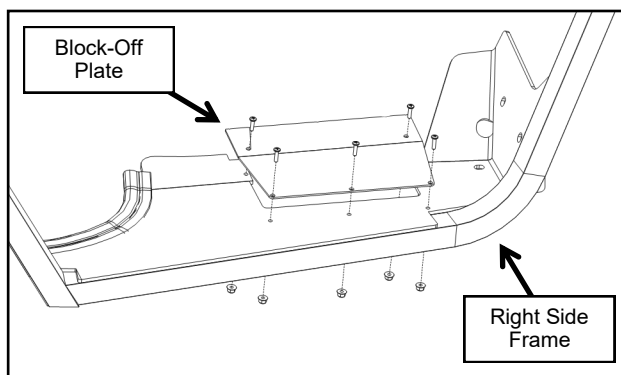

Fig. 2.10 (Right Floorboard Block-Off Plate)
- 2.10 Install the block-off plate to the right side floorboard using supplied hardware listed below. See Figure 2.10.